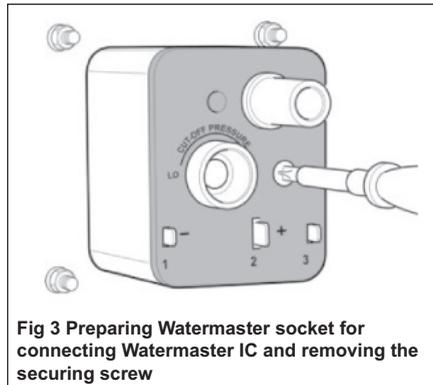

Fig 3 Preparing Watermaster socket for connecting Watermaster IC and removing the securing screw
#### Replacing the empty cylinder, Figure 3.
- Step 4 - Remove securing screw (see Fig 3)